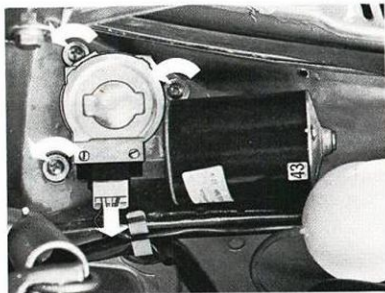

Fig. 3-139. Removing windshield wiper motor
3. Remove the three attaching screws (Fig. 3-139).
1. Place the wiper motor in position and fit the attaching screws, see Fig. 3-139.